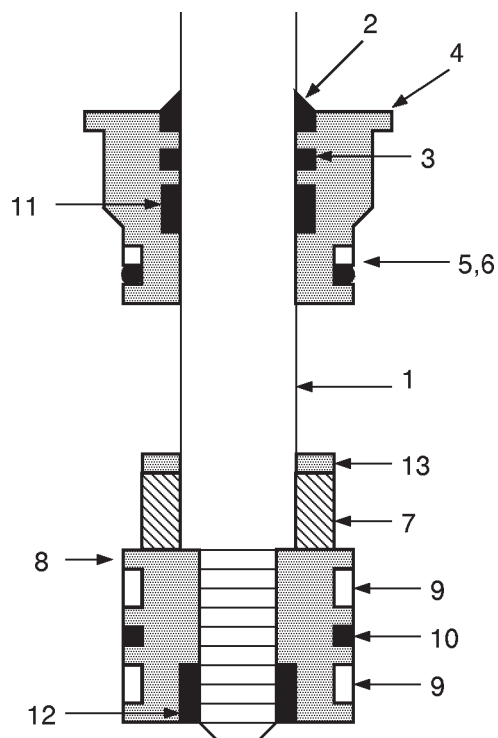

**FIGURE G-1. SECURING CYLINDER**
8. Install the rod wiper (item 2).
10. Carefully slide the head onto the rod. Make certain that the rod wiper (item 2) does not catch on the rod when it is first started. Slide the head all of the way onto the rod and up to the pin boss.
11. Slide the stop tube ring and stop tubes (item 7 - if applicable) onto the rod.
13. Secure the rod as shown in Figure G-1 and screw the piston onto the rod by hand. You should be able to get the piston almost all the way onto the rod before using the spanner wrench.
17. Slide the piston into the cylinder. With a rotating motion, work the o-ring (item 6) and the back-up (item 5) past the threads and hand tighten the cylinder head.
18. Secure the cylinder (Figure G-1) and torque the head in the same manner as the piston (step 14, Figure G-6).